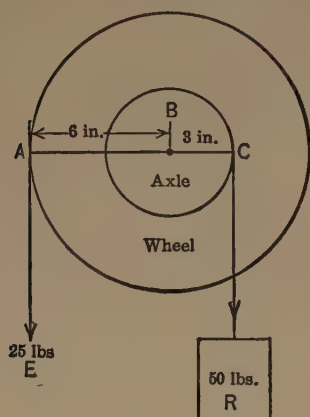

FIG. 15. — Use this diagram to explain how the wheel and the axle constitute in principle a continuously acting lever.
**Wheel and axle.** In the ice-cream freezer, the clothes wringer, egg beater, bread mixer, churn, emery knife sharpener, and windlass, we apply effort in the path of a large circle or at the circumference of a wheel while the resistance is applied at the circumference of an axle. A machine of this type differs in no respect from a lever in principle; in fact, it is a continuous acting lever, as may be seen from Fig. 15. Let